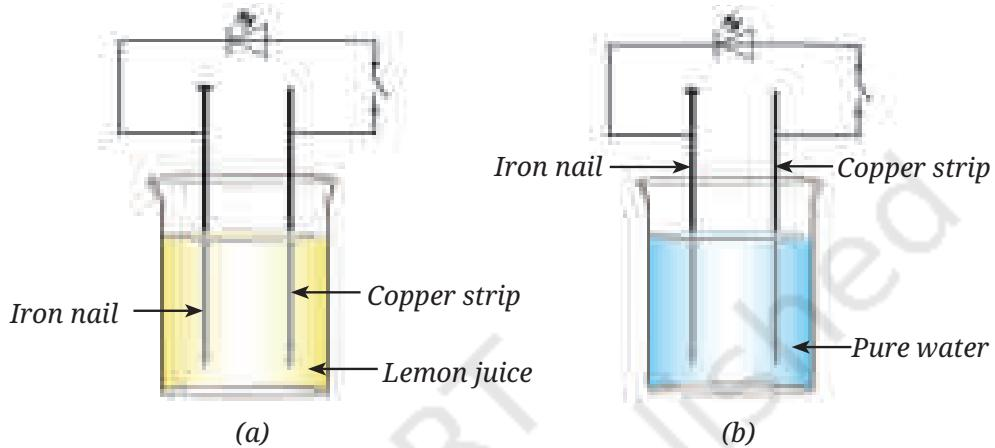

Fig. 4.11
- In Fig. 4.11, in which case the LED will glow when the switch is closed?